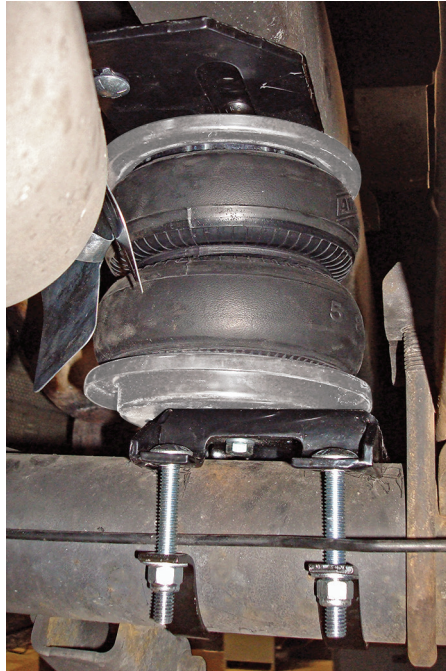

fig. 21
2. Figure 21 shows a rear view of the right (passenger) side.